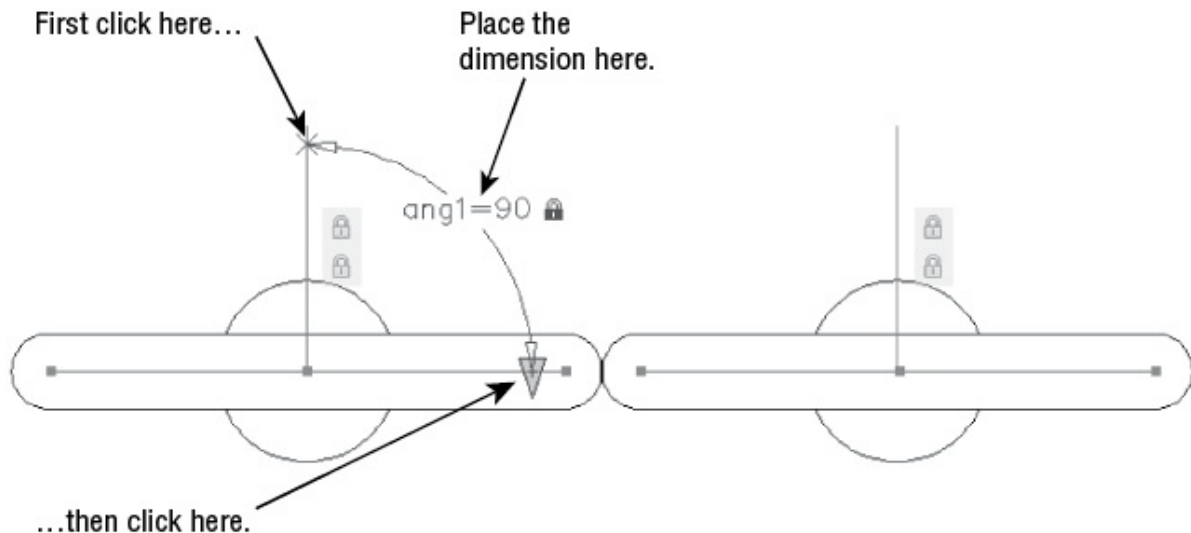

FIGURE 17.30 Adding the angular constraint to the `gatesample.dwg` drawing
2. Click the left vertical line toward the top, as shown in Figure 17.30.
3. Next, click the left horizontal line toward the right end of the line, as shown in Figure 17.30.
4. Place the dimension as shown in Figure 17.30.